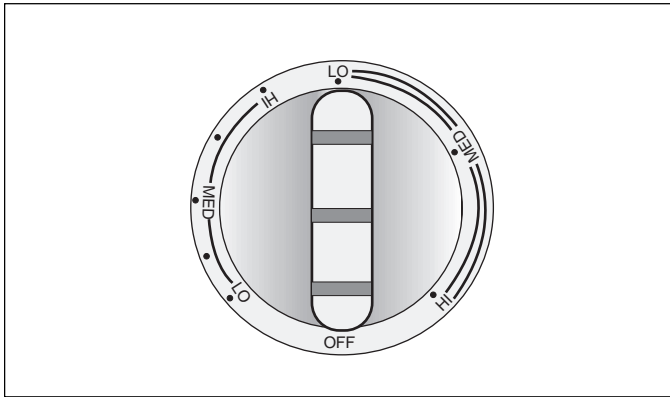

Figure 7
1. Push down on control knob and turn to desired setting. (Figure 7)